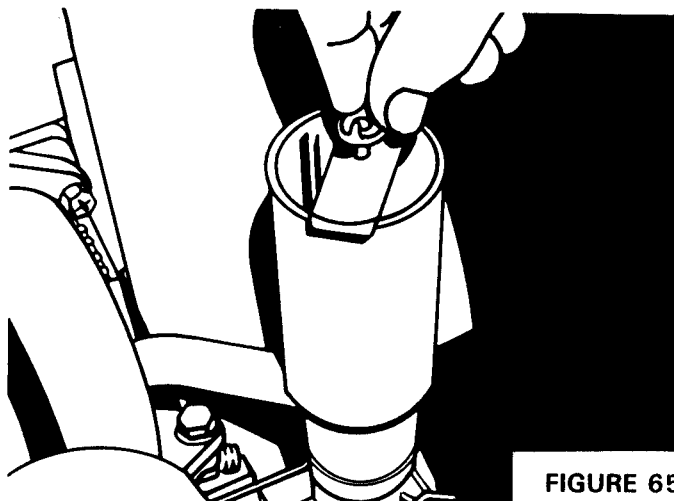

FIGURE 65
5. Remove Wingnut, Retainer Strap and Spacer Tube from top of Carburetor. See Figure 65. Retain the Wingnut for use with the Air Cleaner Kit.